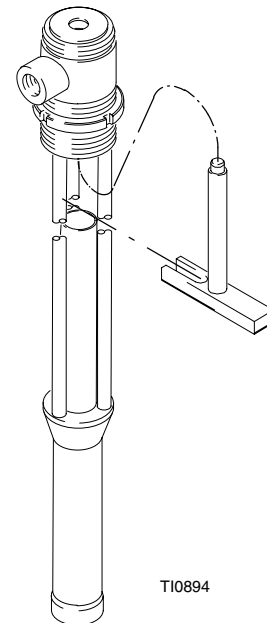

Fig. 5
4. Unscrew the piston valve housing (109) from the lower connecting rod (115). Unscrew the piston body (113) from the piston valve housing (109).
5. Unscrew the lower connecting rod (115) from the upper connecting rod (120). Remove the cup packings (107), bearing (108) and backup washer (114).
6. Lubricate the packings (107**) and bearing (108**) with no. 2 lithium-based grease. Install the backup washer (114) on the lower connecting rod (115), making certain that the grooves face up.
7. On the upper connecting rod (120), install one cup packing (107**) with the lips facing up, the bearing (108**), and the second packing (107**) with the lips facing down. Reconnect the upper and lower connecting rods. Torque to 20-25 ft-lb (27-34 N.m).
8. Lubricate the packings (111**) and bearing (112**) with no. 2 lithium-based grease. On the piston (113), install one cup packing (111**) with the lips facing down, the bearing (112**), and the second packing (111**) with lips facing up. Install the backup washer (110), with the grooves facing down.
9. Place the ball (104**) atop the piston body (113), then screw the piston body and piston housing (109) together. Torque to 30-35 ft-lb (41-48 N.m). Screw the piston valve housing onto the lower connecting rod (115). Install the seal (134**), *with the lips facing down*, in the displacement pump frame (119), then install the bearing (118**). The seal (134**) should be installed from the bottom of the frame using tool 233582. See fig. 5. Use a turning motion to work the connecting rod and piston back into the pump frame (119).
9. Place the ball (304**) atop the piston body (313), then screw the piston body and piston housing (309) together. Torque to 30-35 ft-lb (41-48 N.m). Screw the piston valve housing onto the lower connecting rod (315). Install the seal (334**), *with the lips facing down*, in the pump frame (319), then install the bearing (318**). The seal (334**) should be installed from the bottom of the frame using tool 233583. See fig. 5. Use a turning motion to work the connecting rod and piston into the frame (319).
10. Reinstall the ball (305**) and stop pin (316) in the intake valve housing (317). Screw the housing into the pump frame (319). Place the o-ring (322**) into the inner groove of the intake adapter (321). Screw the adapter onto the intake valve housing (317).
11. Lay the pump on its side and reconnect the upper connecting rod (320) with the air motor piston rod. Tighten the air motor connecting ring (AA).